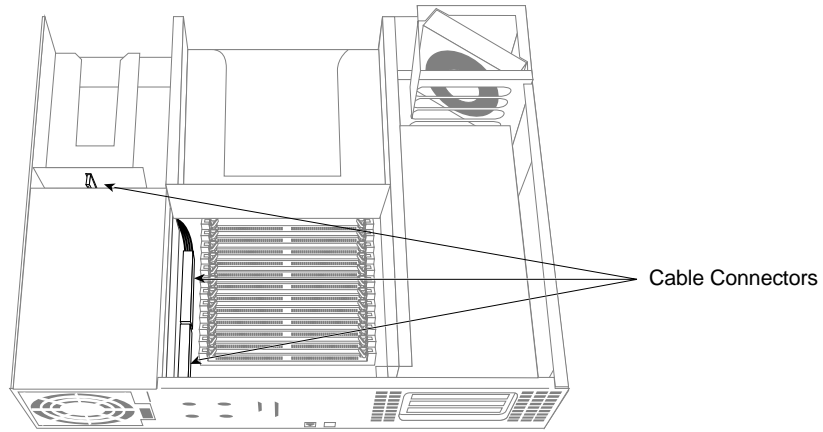

Figure 2-7 Disconnecting the Power Supply Cables
10. Disconnect the power supply cables, as shown in Figure 2-7.